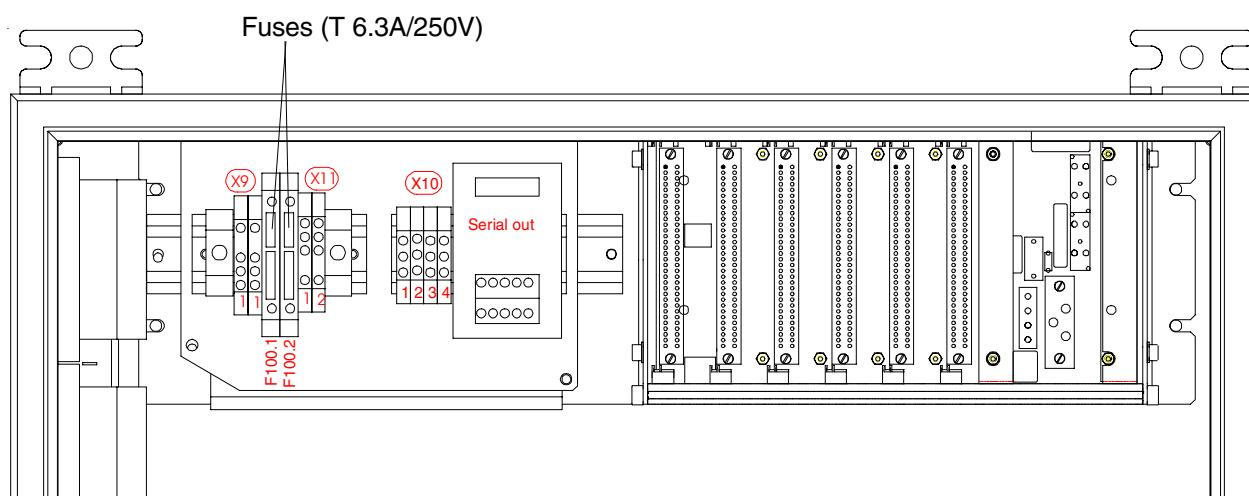

Fig. 12-2: Fuses MLT 2 (partial inside view, drawing without front panel)
- Take out and check the fuses (Fig. 12-2 and 1-15a).